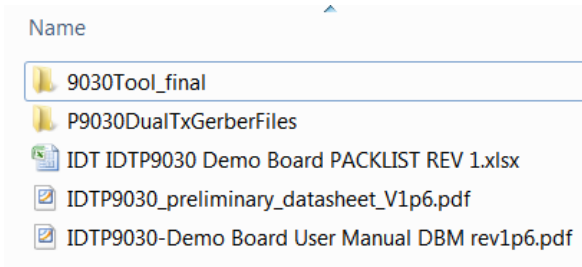

Figure 2. File folder structure on the CDROM.
1. Install the Wireless Power Demo Windows GUI software by executing the Setup.exe file in the folder “9030Tool\_final” (Figure 2 and 5).